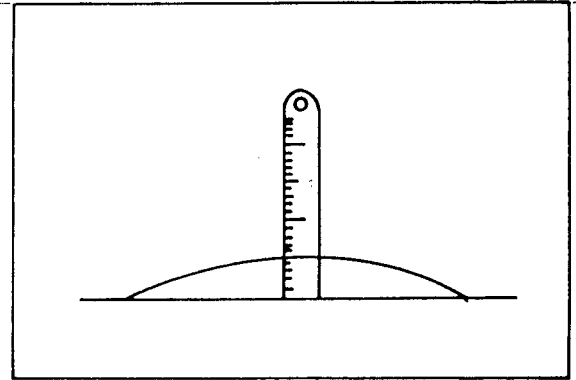

Figure 26
1. To measure the free height of the apex seal spring, place the spring on a level surface and measure it with a scale or vernier caliper as shown in Figure 26.